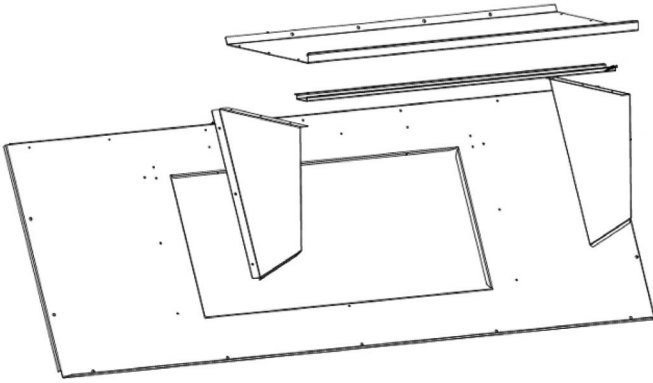

Fig. 29 — Barometric Hood Exploded View
3. Install parts as shown in the following exploded view (Fig. 29) using the seal strip and screws provided in the parts box.